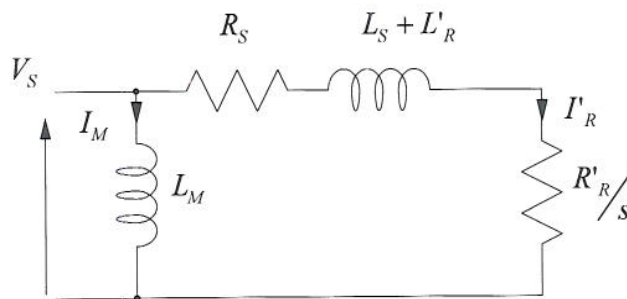

Figure Q3 Approximate equivalent circuit of an induction machine
- b) Figure Q3 shows an approximate equivalent circuit for an induction machine (one in which the magnetising inductance has been moved to the stator terminals). It is to be supplied from an inverter with a DC input voltage of 650 V. The designed level of magnetising flux linkage (in RMS form) is $\Psi(\text{design}) = 0.70 \text{ Wb}$.